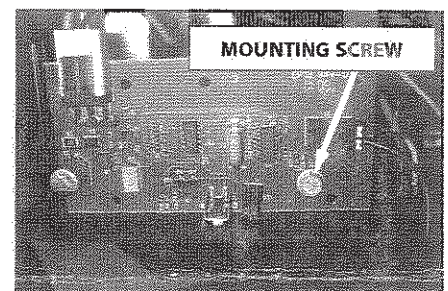

Fig. 2
4. **REMOVE** and retain the receiver mounting screw. **FIG 2**
6. **INSTALL** receiver board to bracket and carefully insert board and bracket into position. Reinstall mounting screw. **FIG 2**